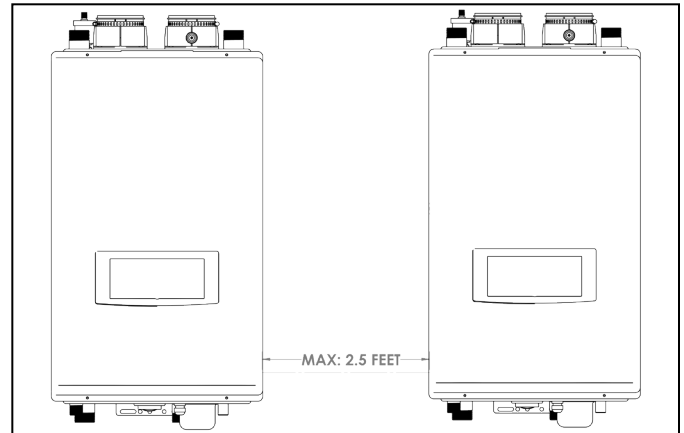

Figure 32 - Maximum Distance Between Wired Cascaded Units
**NOTE:** The maximum distance between units is two and a half feet. See Figure 32. This maximum distance can be increased by connecting additional wire harnesses together. However, the number of units that can be cascaded will be reduced by one for every additional harness used.